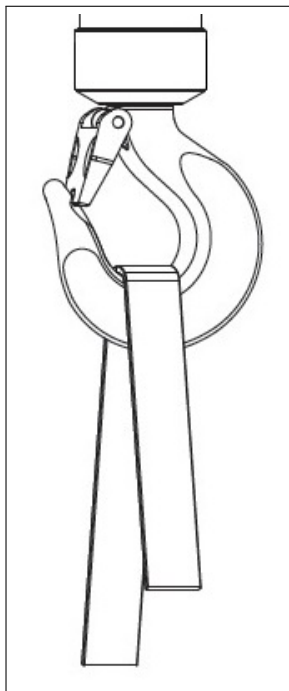

Figure 13: Safely attaching loads
- ▶ Connect the sling gear at the lowest point of the hook. Never load the hook nose (→ Figure 13).